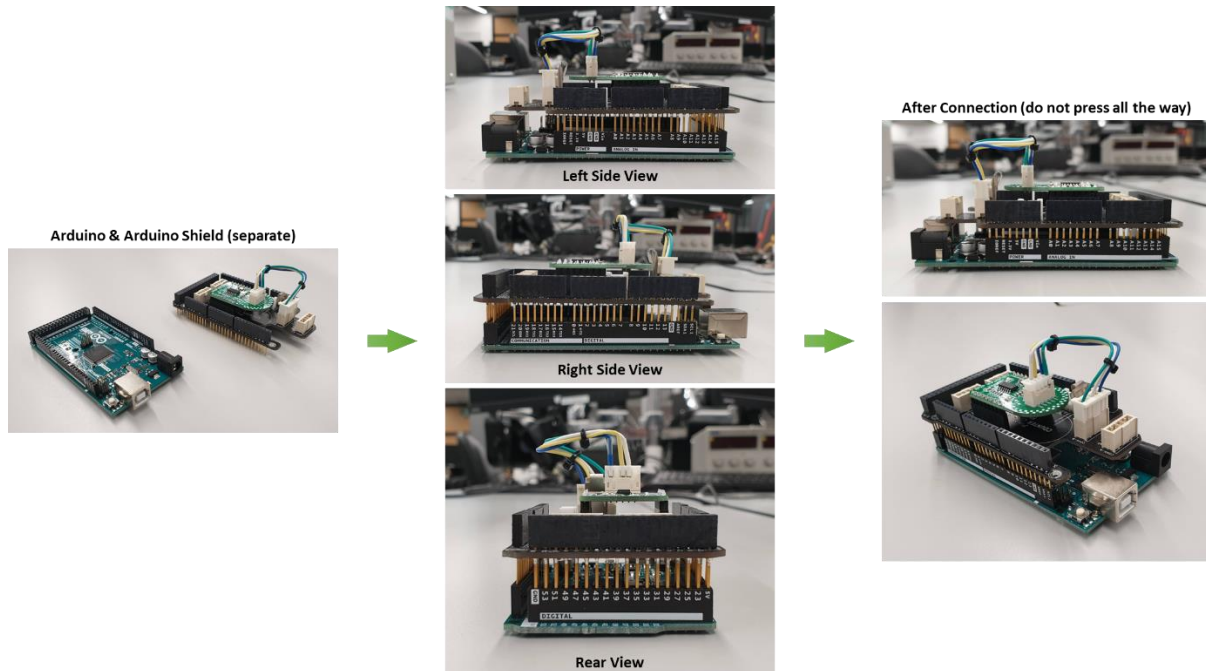

Figure 11 Steps to connect the Arduino and Arduino Shield
3. Connect the **Arduino Shield** with the **Arduino** (see Figure 11 – **IF IT IS ALREADY DONE, SKIP THIS STEP**):